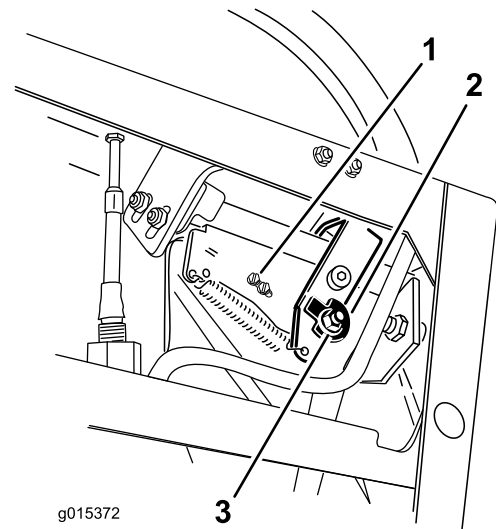
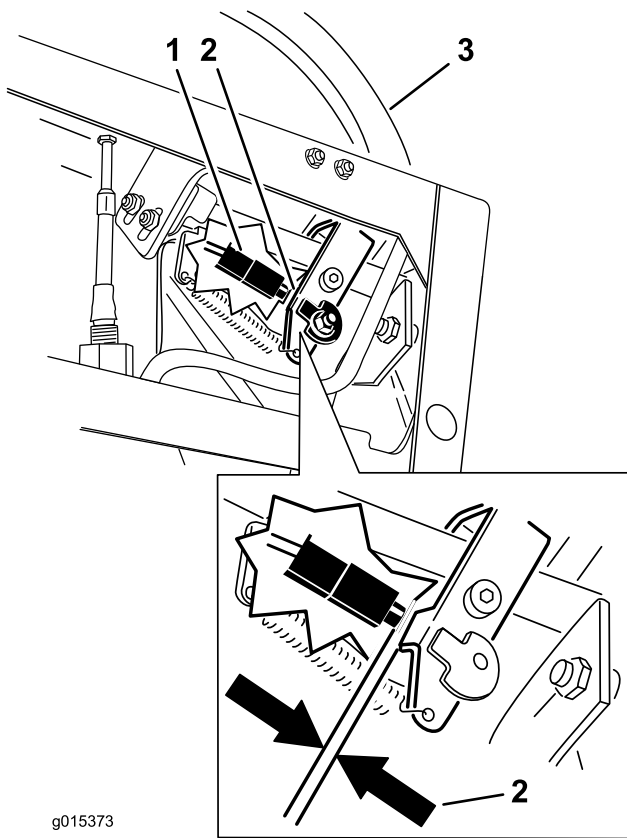

Figure 17
Figure 18
6. Loosen the nut and bolt holding the cam (Figure 17).
9. Check the gap between the control lever and switch as shown in Figure 18. The gap needs to be an 1/8 inch (3mm) with the right motion control lever in the neutral, unlocked position.
10. If needed, loosen the screws holding the switch and adjust the switch (Figure 17 and Figure 18).